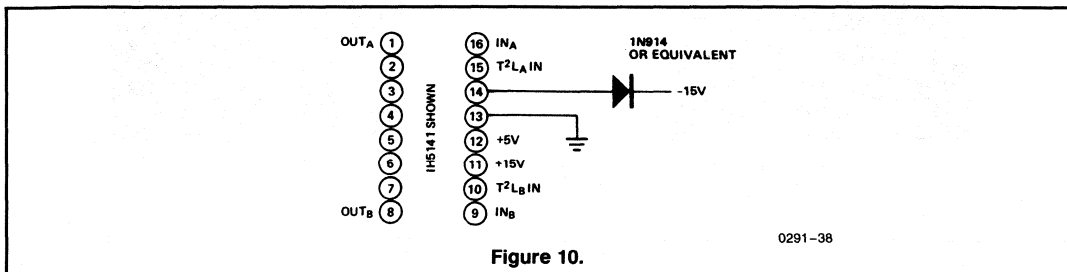

Figure 10.
**TTL OPEN COLLECTOR LOGIC DRIVE (Corresponds to Figure 10)**
This fault situation can also be eliminated by placing a diode in series with the negative supply line (pin 14) as shown in Figure 10. Now when the power supplies are off and a negative input signal is present this diode is reverse biased and no current can flow.